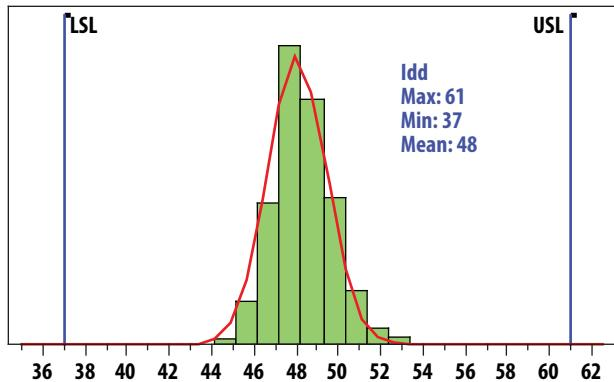

Figure 1. Idd @ 1.9GHz, 5V, 48mA Mean = 48
RF performance at $T_A = 25^\circ\text{C}$, $V_{dd} = 5\text{V}$, $R_{bias} = 5.6\text{ kOhm}$, 1.9 GHz, measured on demo board in Figure 1 with component listed in Table 1 for 1.9 GHz matching.
1. Measurements at 1.9 GHz obtained using demo board described in Figure 1.